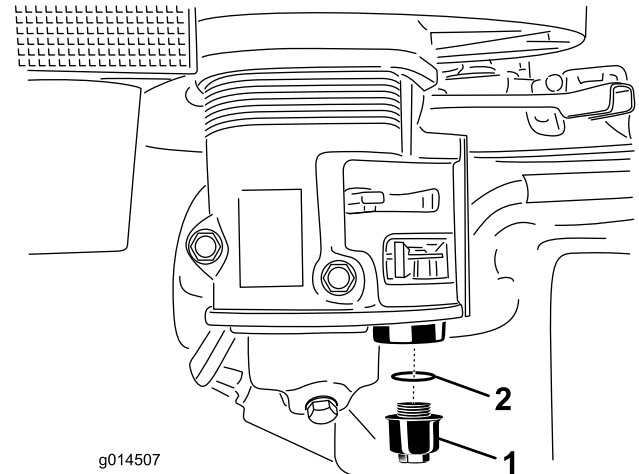

Figure 14
2. Unscrew the sediment cup. Make sure not to misplace the O-ring (Figure 14).